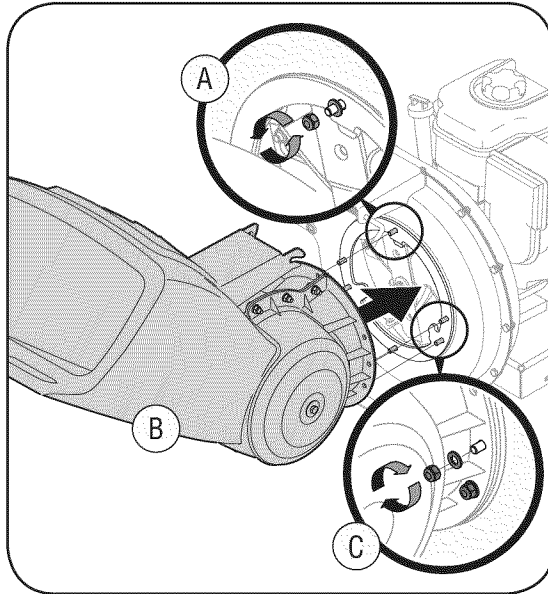

Figure 1
- Remove six hex nuts and washers from the weld studs on the impeller housing. Do not remove the support plate. See Figure 1.